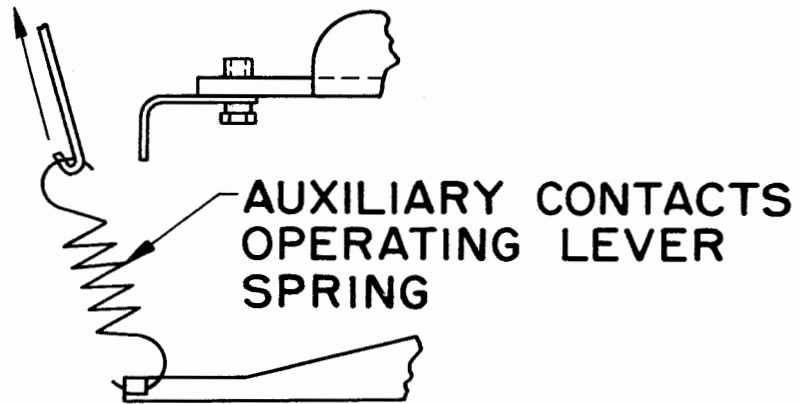

Figure 44
12.04 The tension of the spring between the operating lever and the contact bracket shall be minimum 3 ounces, maximum 5 ounces when the operating lever roller is on the high part of the cam. To measure, rest the transmitter-distributor on its left side, unhook the spring from the bracket on the operating arm, and pull to position length. (See Figure 44.)